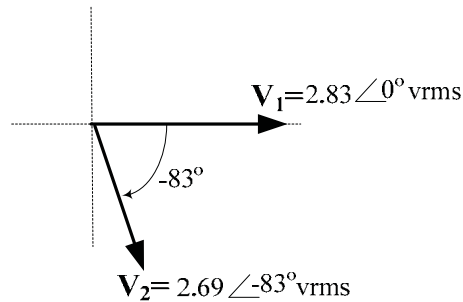
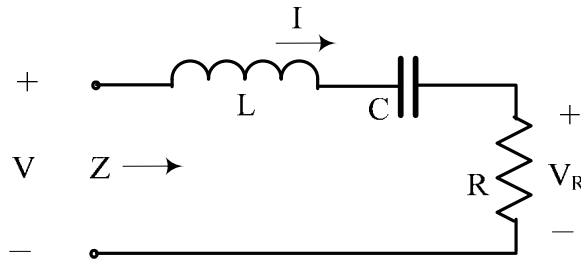

Figure 3.2
Figure 3.3 : Series RLC circuit
For example, consider two waveforms as in Figure 3.1, and let  $V_1 = 4$  volts (reference),  $V_2 = 3.8$  volts,  $f = 2$  kHz and  $\Delta t = 115 \mu\text{s}$ . Then the corresponding two RMS voltages are respectively 2.83 and 2.69 volts and the  $V_2$  phasor lags the reference phasor by  $(360)(2000)(115 \times 10^{-6})$  or  $\approx 83^\circ$ . The  $V_2$  phasor is hence written as  $2.69 \angle -83^\circ$ . The corresponding phasor diagram for  $V_1$  and  $V_2$  can now be drawn as shown in Figure 3.2.
The ‘series RLC circuit’ (shown in Figure 3.3) is used in this experiment to display ‘lead’ and ‘lag’ phase relations between waveforms. For the circuit, operating at a frequency  $f = \omega/2\pi$  Hz, the equivalent terminal impedance  $Z$  is given by :
the same as that in Figure 3.3, but with function generator(FG) and oscilloscope (DSO) connections added.
Both  $V_1$  and  $V_R(V_2)$  are node voltages referenced to the common ‘ground’ of the FG and DSO. The voltage  $V_1$  on Ch1 is taken as the ‘zero-phase’ reference waveform and it represents the voltage  $V$  across  $Z$  in Figure 3.3. The voltage  $V_2 (=V_R)$  on Ch2 is a scaled version of the current phasor  $I$  as mentioned before. The phase lead or lag can be found at any given frequency by measuring the time difference  $\Delta t$  between two adjacent reference points, such as the peaks or the zero-crossings in Figure 3.2. Recall that  $V$ -bar cursors are available on the DSO to find  $\Delta t$ .